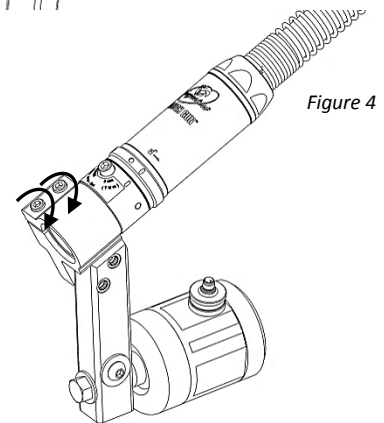

Figure 4
7. Tighten the 2x SHCS in the gun mount using a 5 mm Allen wrench (see *Figure 4*).